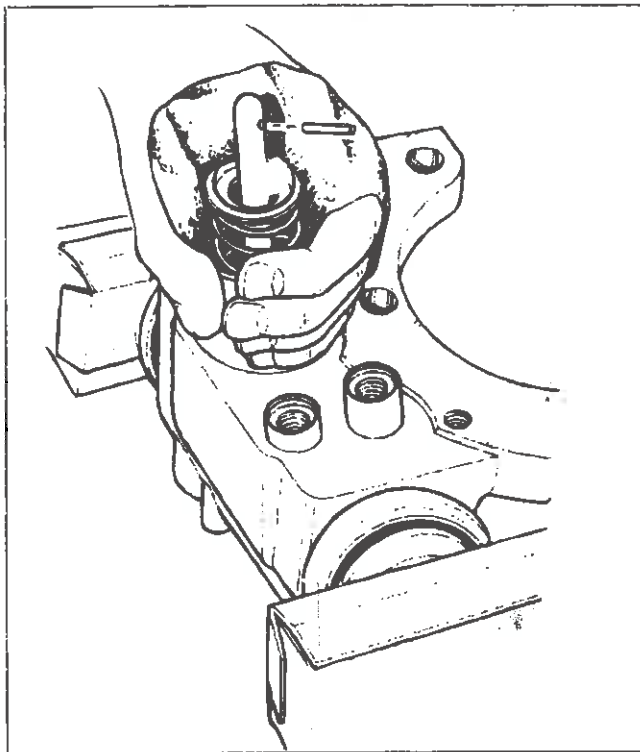

figure 2
13. Remove the wedge assembly by first compressing the return spring then removing the pin (see figure 2). Remove the return spring and sleeve. Remove the snap ring. Remove the retaining ring, washer and wedge assembly from the housing. Inspect all pieces for wear, corrosion or damage. The rollers should turn freely and should not have any flat spots. Replace assembly if not serviceable. Do not install into the housing at this time.